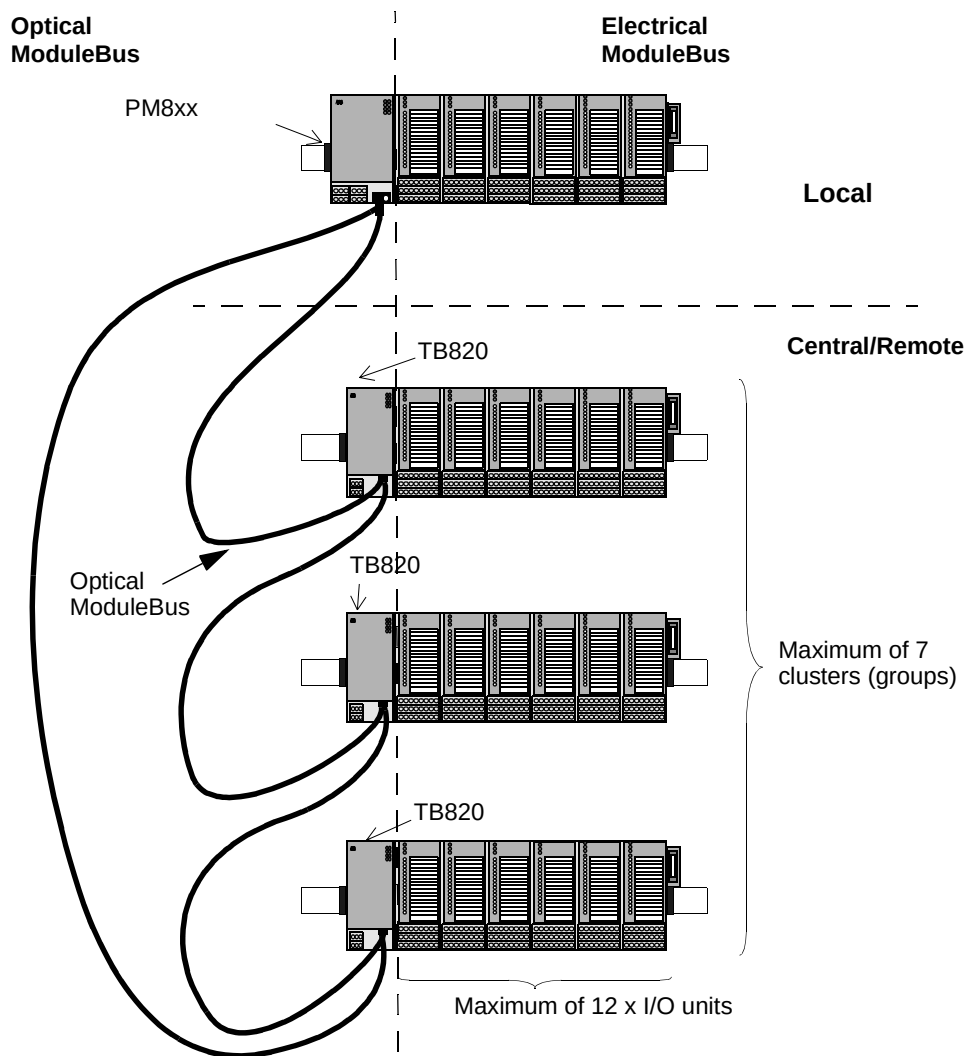

Figure 28. Electrical and Optical ModuleBus Configuration
- Electrical ModuleBus, (see Figure 28 on page 97) – 1 cluster (group), with a maximum of 12 S800 I/O units connected.
- Optical ModuleBus (see Figure 28 on page 97) – 7 clusters (groups), with maximum $7 \times 12 = 84$ S800 I/O units connected.